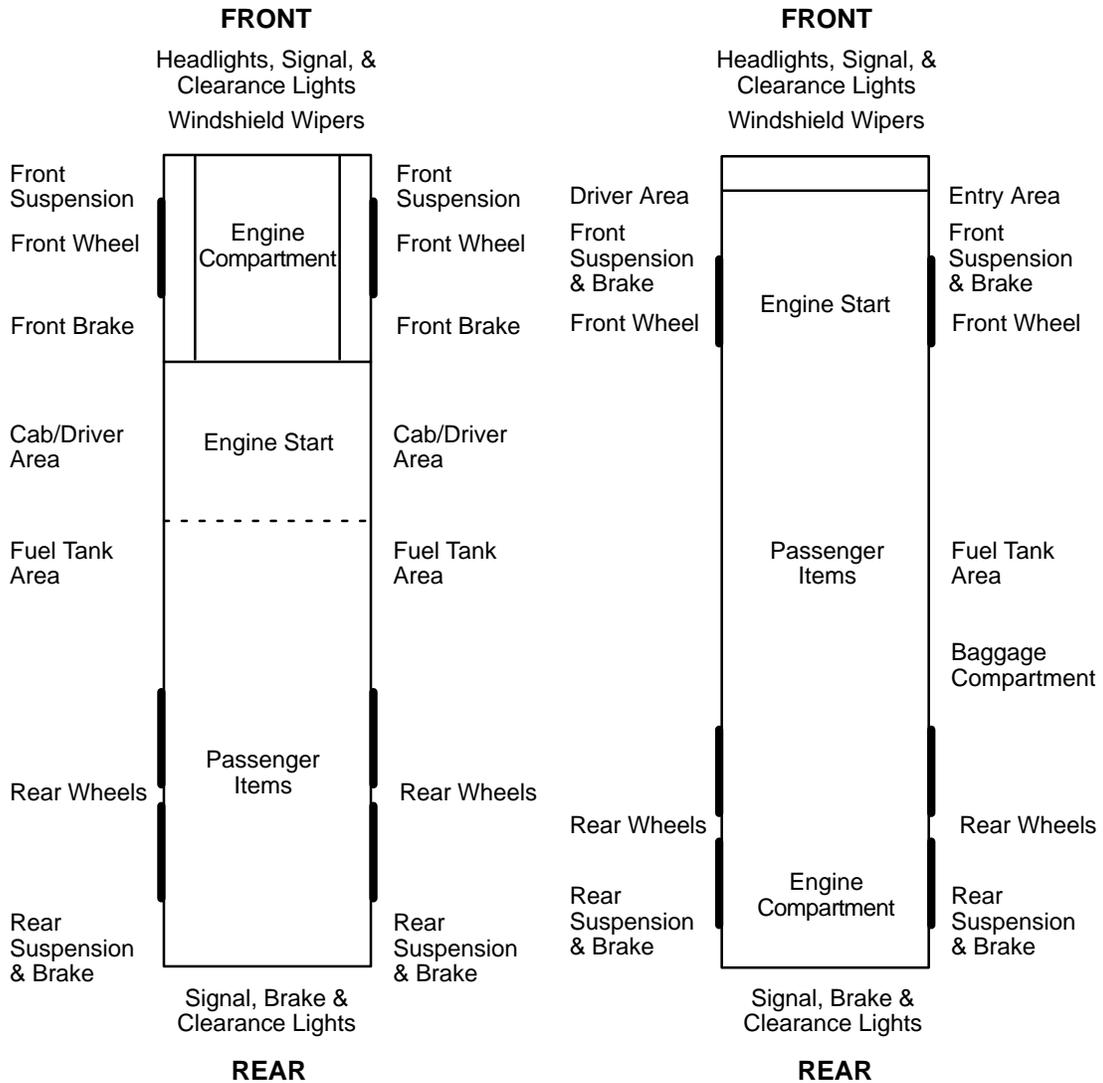

Figure 2-5: Straight Truck/School Bus
**Method of Inspection.** You should do a pre-trip inspection the same way each time so you will learn all the steps and be less likely to forget something. The following seven-step method should be useful. Guides are shown in Figures 2-5, 2-6, and 2-7.